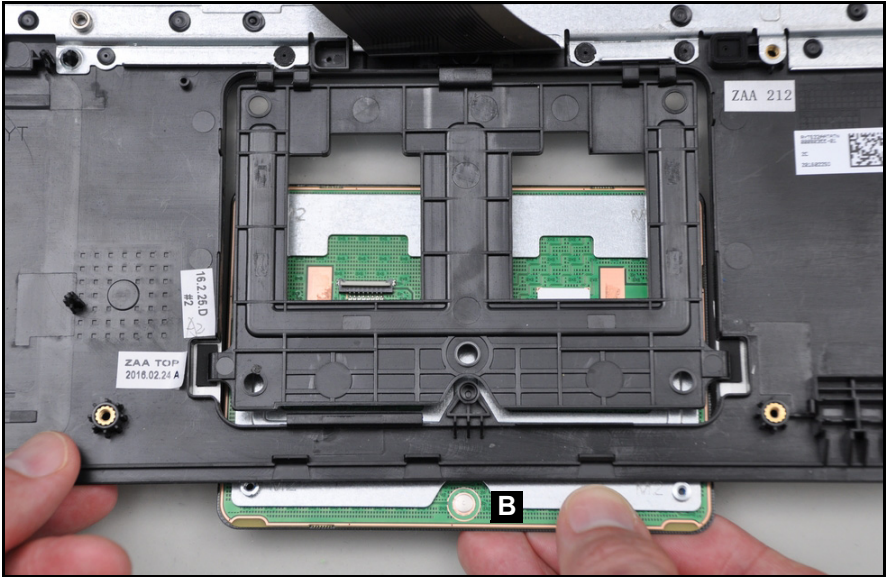

Figure 3-46. Touchpad Board Removal
6. Carefully open the top assembly with one hand, and remove the touchpad module (B) from the top assembly (Figure 3-46).